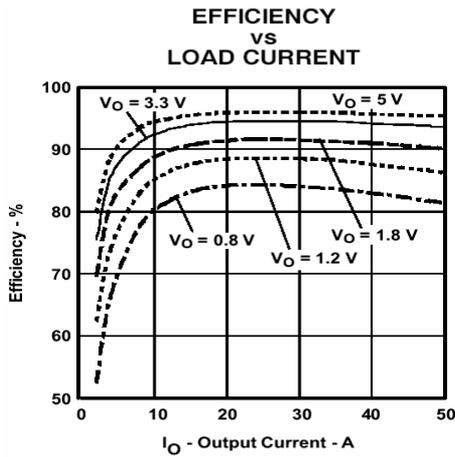
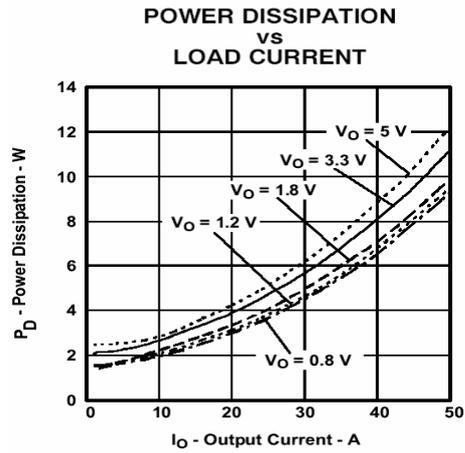

Figure 1
Figure 2
- (1) The electrical characteristic data has been developed from actual products tested at 25°C. This data is considered typical for the converter. Applies to Figure 1 and Figure 2.